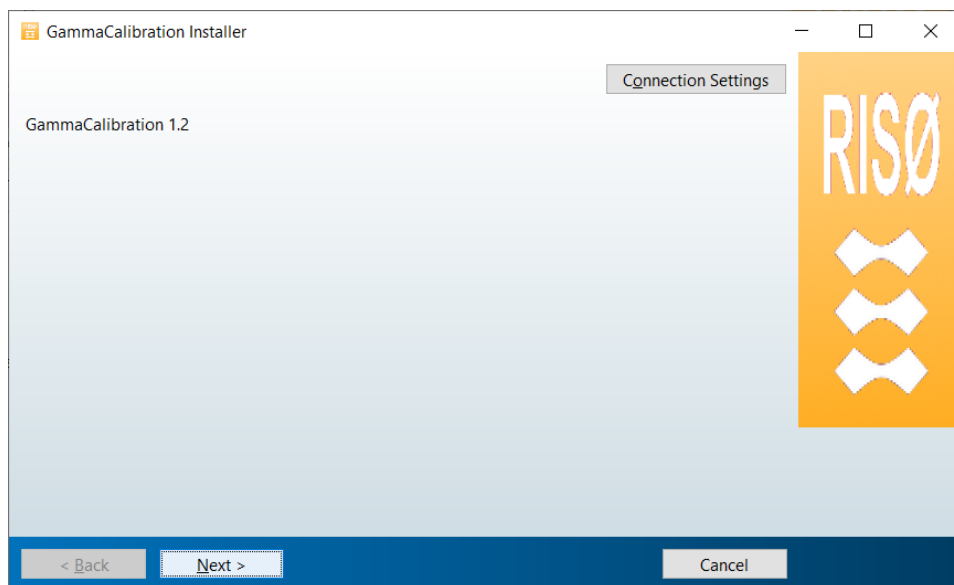

Fig. 2.1 The first step of installation. Simply choose “*Next*”.
3. In the first step, the button “*Connection Settings*” (see Fig. 2.1), should be ignored. Simply press “*Next*” button.